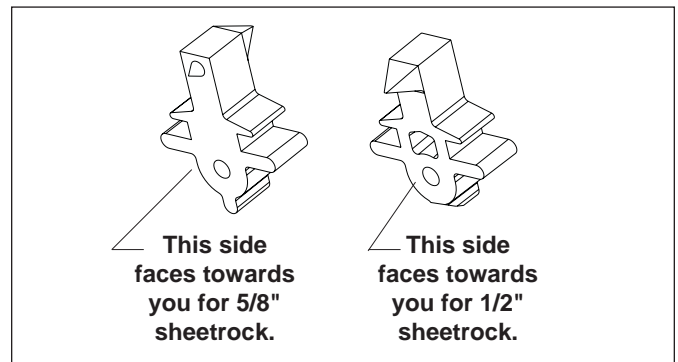

Figure 27. Cleat Orientation
- Depending on what size sheet rock (5/8" or 1/2"), determine which side of the cleat is to be facing you (see Figure 27).